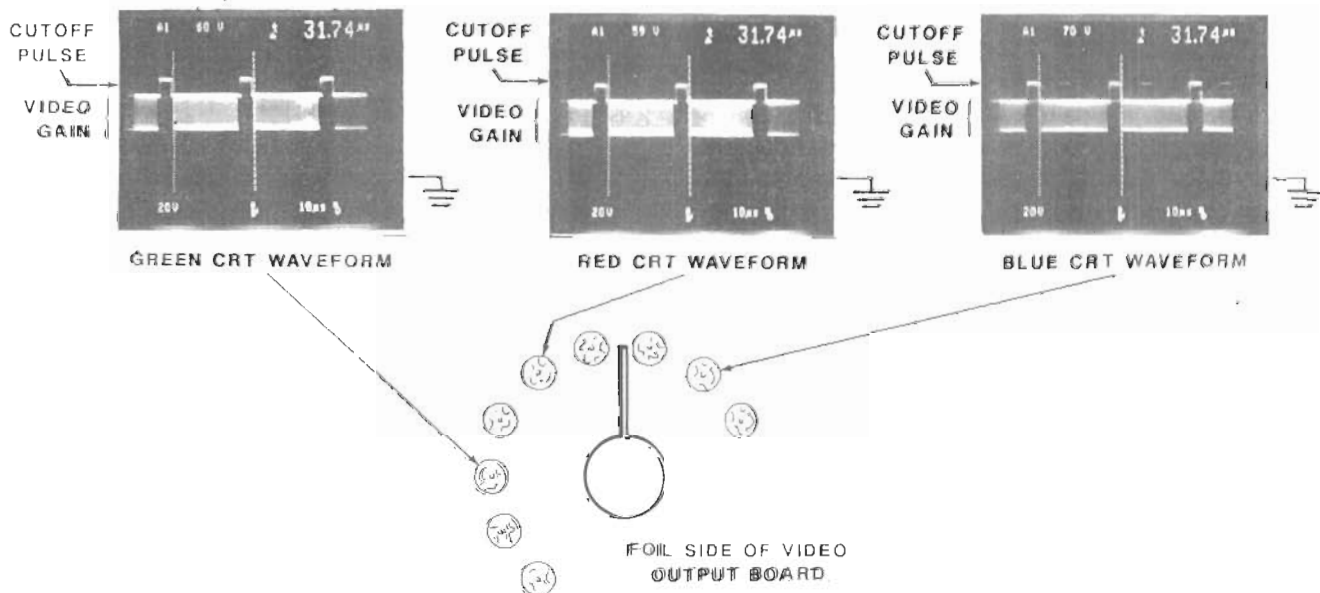

Figure 4-6. CRT Gun Waveforms
The cutoff controls (R5316, R5317, and R5318) set the DC level at which the CRT is cut off during blanking and retrace times. The cutoff controls shift the entire waveform viewed at each of the three CRT guns up or down, thereby setting the level of the cutoff pulses (the rectangular pulses in the waveforms of Figure 4-6). Perform this adjustment in a dimly lit area. To adjust the cutoff controls:
11. Set the external brightness and contrast controls to their detent positions and compare the waveforms at the red, green, and blue CRT guns to those pictured in Figure 4-6. They should appear similar.
3. Refer to Figure 4-6 and measure the waveform at the green gun of the CRT. It should be similar to the waveform photograph pictured.
4. Refer to Figure 4-6 and measure the waveform at the red gun of the CRT. The peak-to-peak amplitude of the area labeled "video gain" in the red CRT gun waveform photograph should be equal to the peak-to-peak amplitude of the same area measured at the green gun (approximately 48 V peak-to-peak). Adjust R5154 until the amplitude of this area matches that of the green gun.
5. Refer to Figure 4-6 and measure the waveform at the blue gun of the CRT. The peak-to-peak amplitude of the area labeled "video gain" in the blue CRT gun waveform photograph should be equal to the peak-to-peak amplitude of the same area measured at the green gun (approximately 48 V peak-to-peak). Adjust R5140 until the amplitude of this area matches that of the green gun.
The video gain controls (R5140 and R5154) set the amplitudes of the red and blue CRT drive voltages relative to the green drive voltage. (The green amplifier gain is fixed.) The gain controls shift the "video gain" portions of the CRT gun waveforms in Figure 4-6 up or down. When set properly, all three RGB drive voltages should be the same. To adjust the video gain.